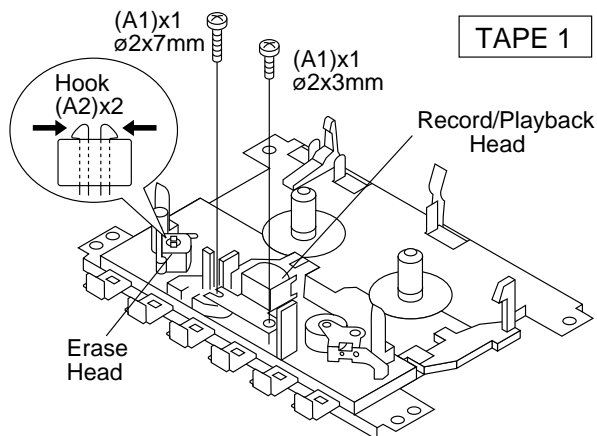

Figure 7-1
#### How to remove the record/playback and erase heads (TAPE 1) (See Fig. 7-1)
2. Move the hooks (A2) x 2 pcs., toward the center position as shown in Fig. 7-1 and then lift the erase head.